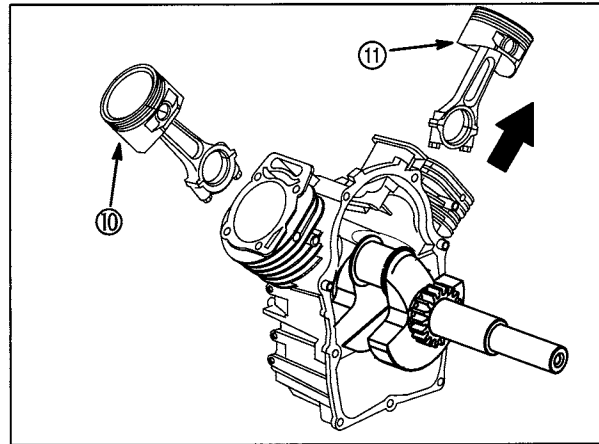

Fig. 27
2. Push connecting rod and piston assembly (11) out of #2 cylinder (arrow), **Fig. 27**. Reassemble cap to rod to prevent interchanging.
3. Repeat for #1 cylinder (10).